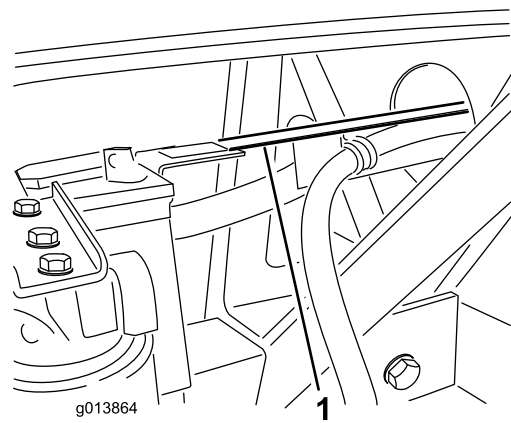

Figure 10
34. The hose guide should sit on top of the tab from the vertical leg of the battery tray (Figure 10). If the holes in the hose guide do not match the holes in the battery tray tab, the hose guide length may be adjusted by loosening the bolts attaching the hose guide to the hydraulic tank bracket and sliding the hose guide forward or to the rear as required.
35. Attach the hose guide to the battery tray tab using 2 bolts (1/4 x 3/4 inch) and flange locknuts (Figure 10).